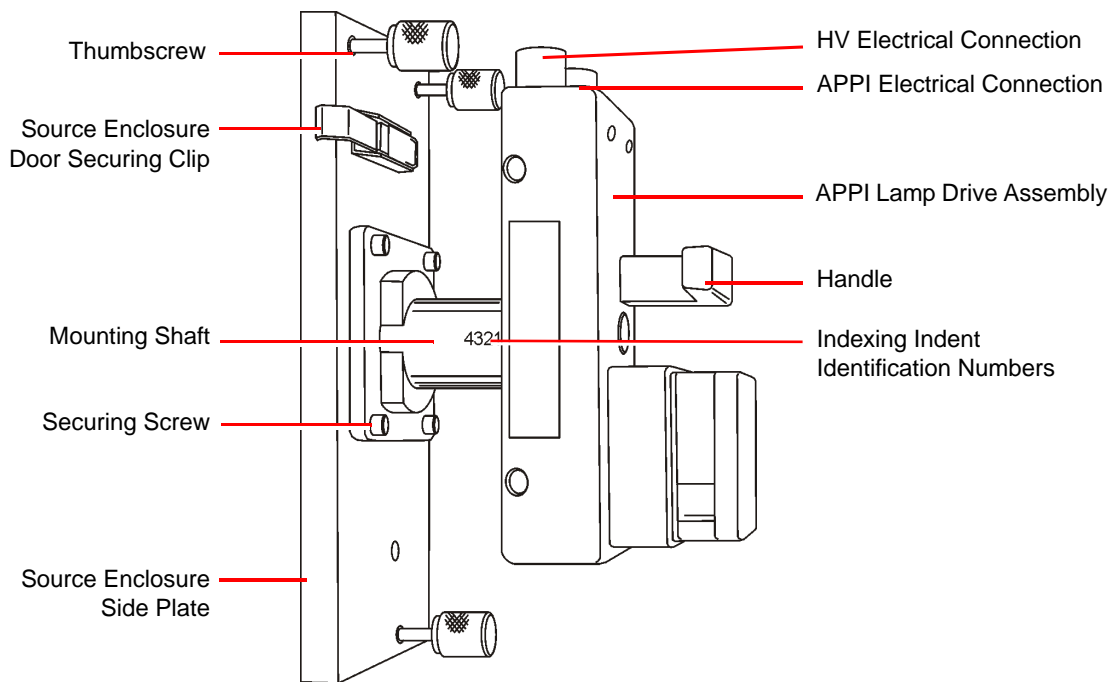

Figure 5-5 APPI Lamp Drive Assembly and Side Plate
The APPI lamp drive assembly (Figures 5-5 and 5-6) consists of:
3. Fit the APPI lamp drive assembly onto the APPI source enclosure side plate using the four securing screws and washers (see Figure 5-5).
10. Fit and tighten the three securing thumbscrews (see Figure 5-5).
12. Connect the APPI drive cable (part number 4170075CC1) between the APPI lamp drive assembly APPI electrical connection (see Figure 5-5) and the APPI connector on the secondary interface panel.
13. Connect the HT cable, between the APPI lamp drive assembly's HV electrical connection (see Figure 5-5) and the Capillary connector on the secondary interface panel.